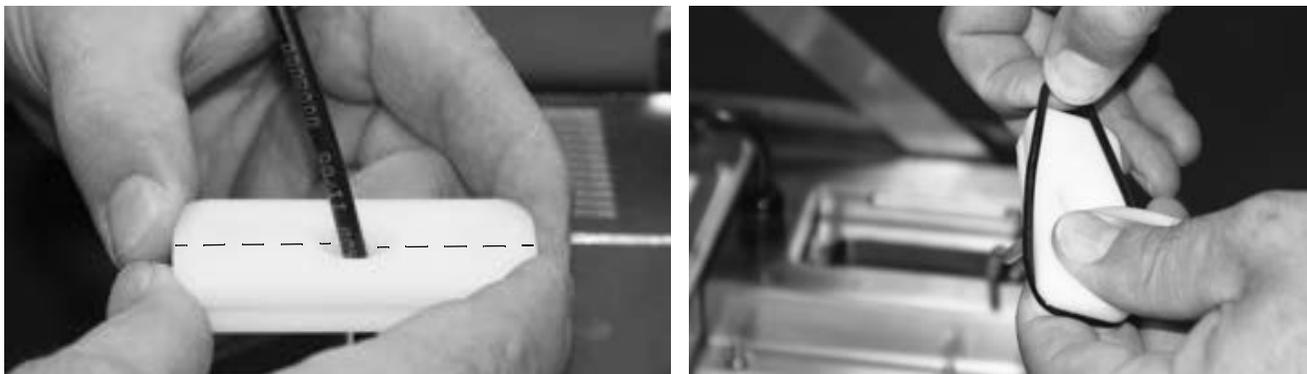

Figure 5-28. Assemble The Split Seal Plates Together
11. Assemble the split seal plates back together with the cable in between (Figure 5-28, left image).